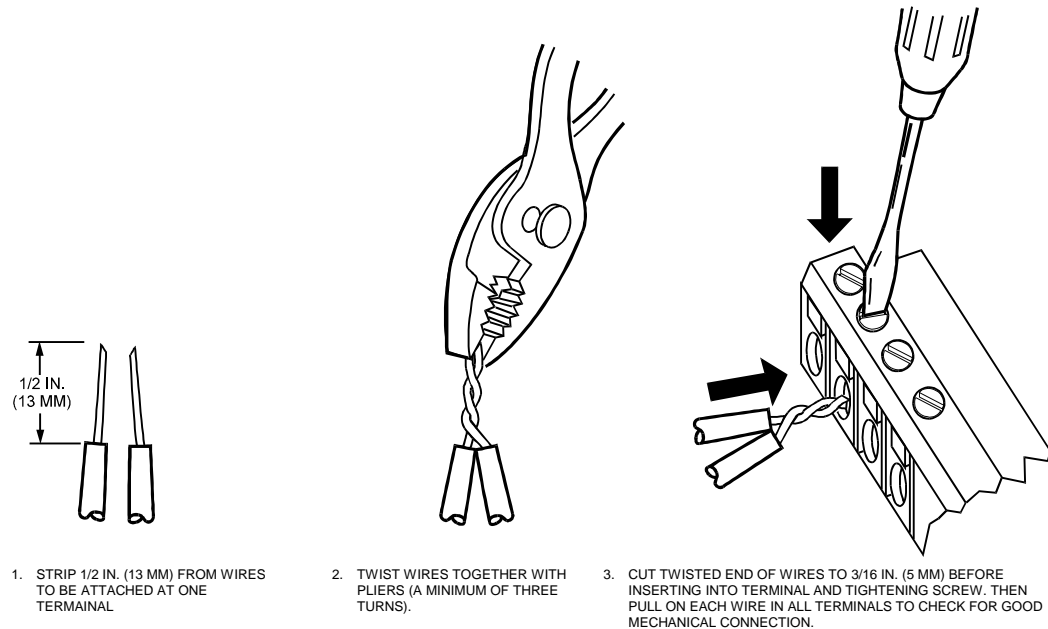

Fig. 15. Attaching two or more wires at terminal blocks.
**NOTE:** For field wiring, when two or more wires are to be attached to the same connector block terminal, be sure to twist them together. Deviation from this rule can result in improper electrical contact. See Fig. 15.